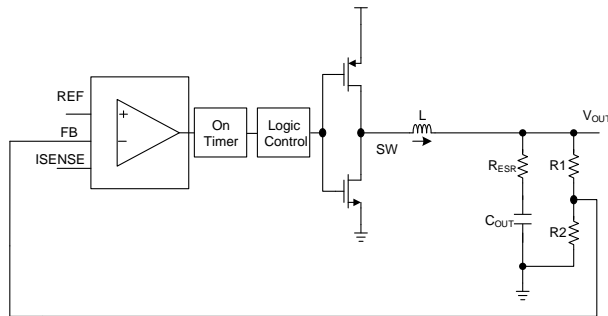

Figure 2: Simplified Control Block
The device uses constant-on-time (COT) control to provide fast transient response and easy loop stabilization. Figure 2 shows the MPM3612's simplified ramp compensation block. At the beginning of each cycle, the high-side MOSFET (HS-FET) turns on once the ISENSE ramp (V_{ISENSE}) falls below the error amplifier (EA) output voltage (V_{EAO}), which indicates an insufficient output voltage (V_{OUT}).